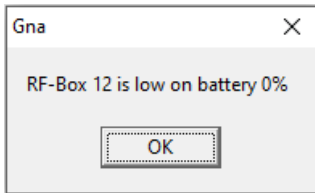

Figure 2.5 Battery level warning message
**Red light blinks once:** Battery is running low. GNA gives a warning message (Figure 2.5).